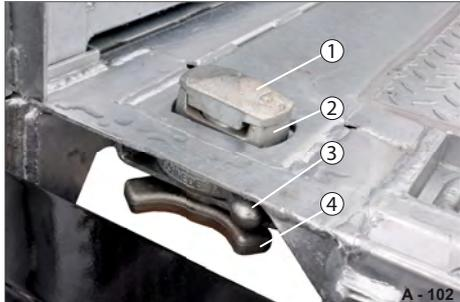

Fig. 155 "Twist-Lock" overview
- ▶ Unscrew the clamping nuts (Fig. 155/4).
- ▶ Turn the grooved bush (Fig. 155/3) to the right.